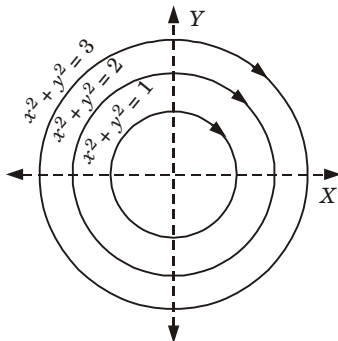

Fig. 2.15.1. Streamlines.
- Each equation is an equation of a circle. Thus we shall get concentric circles of different diameters shown in Fig. 2.15.1.